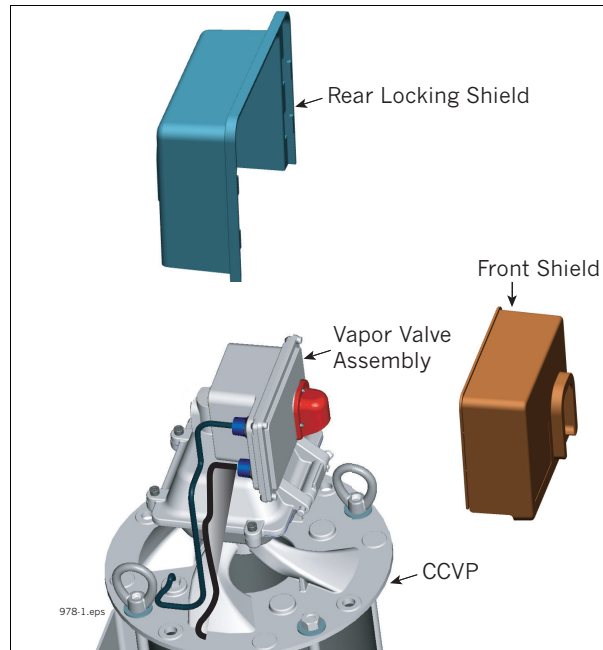

Figure 1. Rain shield components
1. The two rain shield components and the CCVP vapor valve assembly are shown in Figure 1.